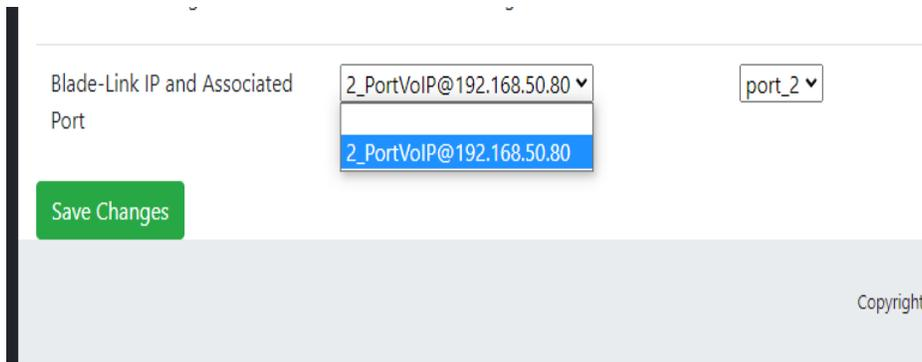

Figure 6-2: The information of the non-server Blade will be populated once a reboot has been performed.
7. At the bottom of the page, the information from the non-server Blade will be populated. In our example, it would be the 2-port mini-Blade. This is shown in Figure 6-2.
8. Click the name/IP of the Blade you are connecting with Blade-Link. On the right is the physical Port of the M4x channel of that Blade. Since it is a Mini Blade, it will only have the option for Port 2 as seen in Figure 6-2.